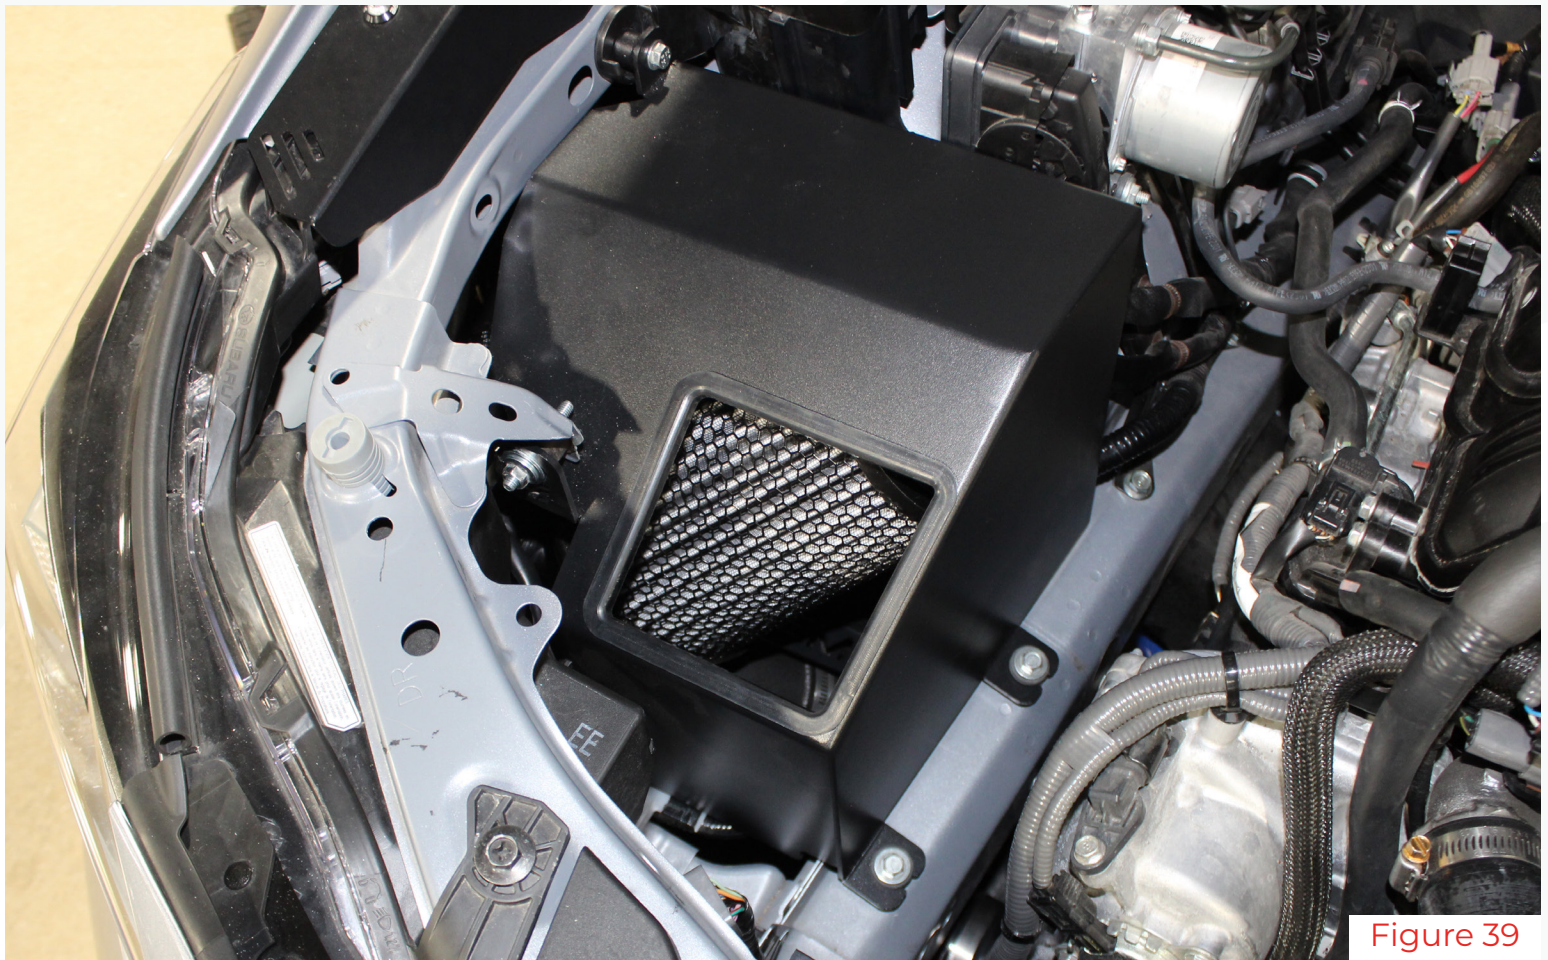

Figure 39
6. Secure the shroud through the fuse box tab with the provided M6 x 35mm bolt. Reuse the factory air box bolts to secure the shroud to the body (Figure 39).